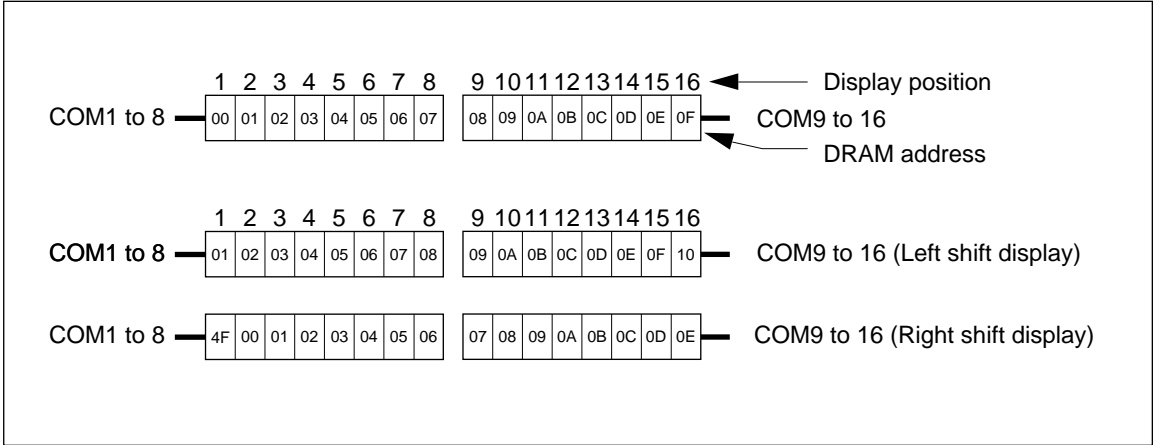

Figure 3 1-line by 16-Character Display Example
- Case 1: When there are fewer than 80 display characters, the display begins at the head position. For example, if using only the HD66710, 16 characters are displayed. See figure 3.
When the display shift operation is performed, the DD RAM address shifts. See figure 3.